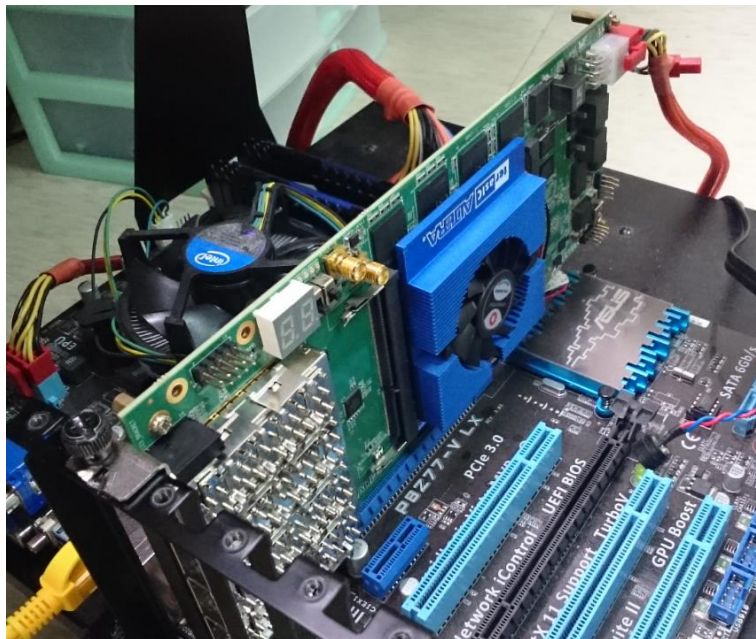

Figure 2-4 FPGA board installation on PC
1. Install the FPGA board on your PC as shown in **Figure 2-4**.